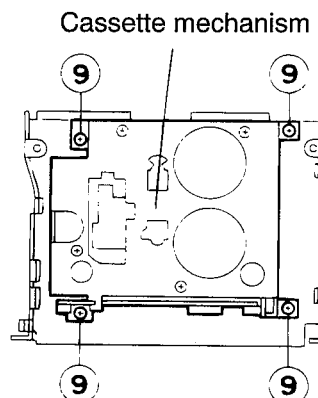

Fig.2-9
■ Cassette mechanism assembly (See Fig.2-9)